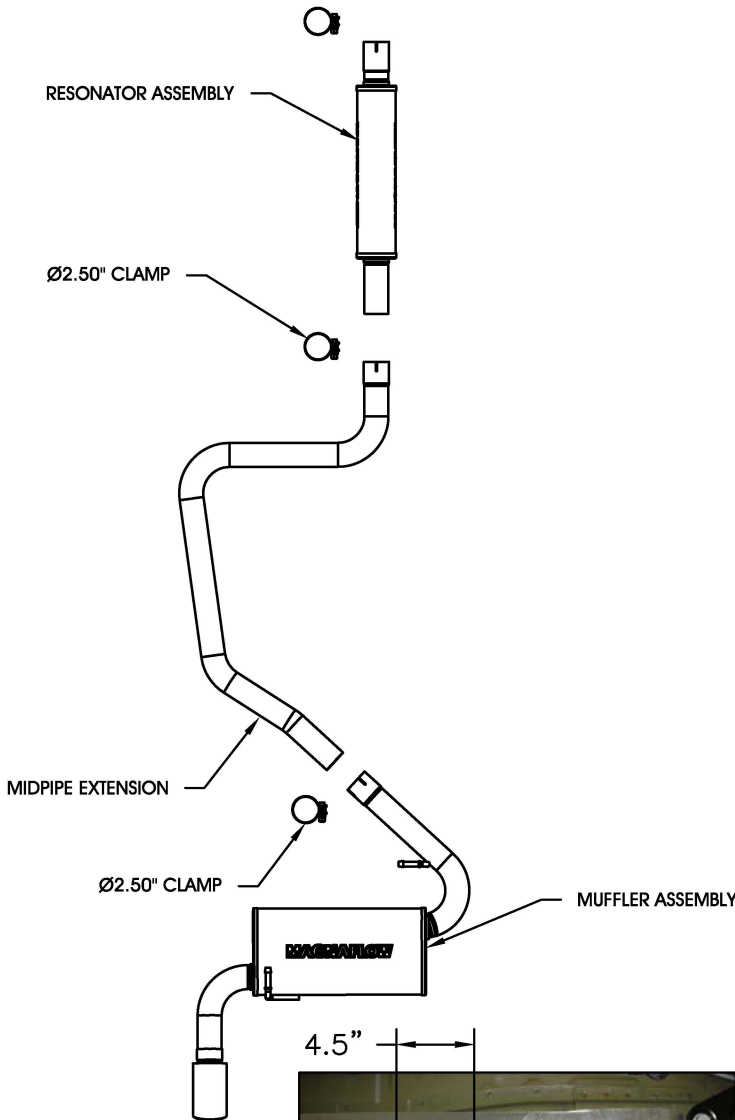

FIG. 1
**Step 1:** (Carefully read all instructions before installation) To remove the OEM exhaust system cut 4.5" back from the weld on the back of the converter (see FIG 1) . Disengage the hangers from the OEM rubber insulators and remove the system from the vehicle. Do not discard or damage the OEM fasteners or rubber insulators, as they will be re-used to mount the new exhaust system.